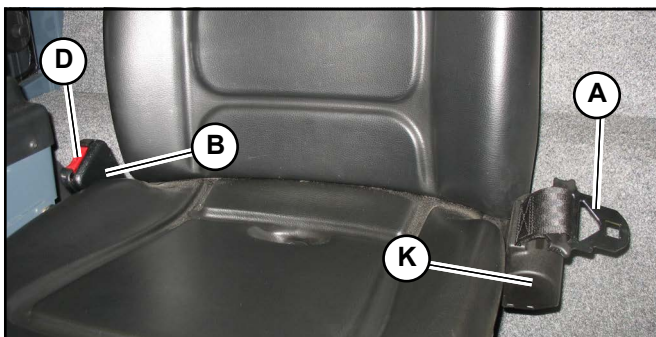

Fig. 74 – Seat Belt
Fasten the seat belt around your hips and waist and insert tongue (A, Fig. 74) into clasp (B) until it clicks securely in place. Slack in the seat belt should automatically retract into seat belt spool (K).